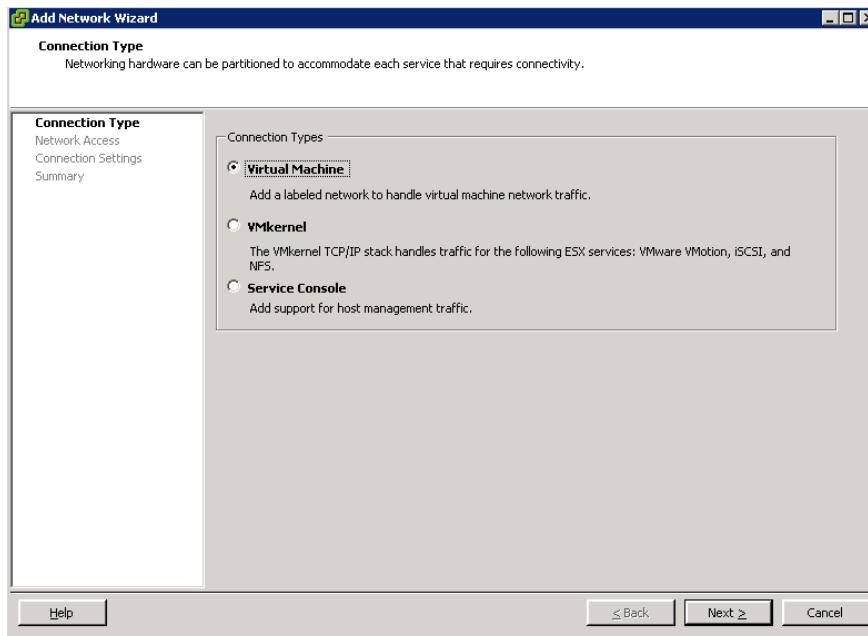

Figure 5-16. Add a Labeled Network
6. In the Add Network Wizard, click **Virtual Machine**, and then click **Next** (Figure 5-16).